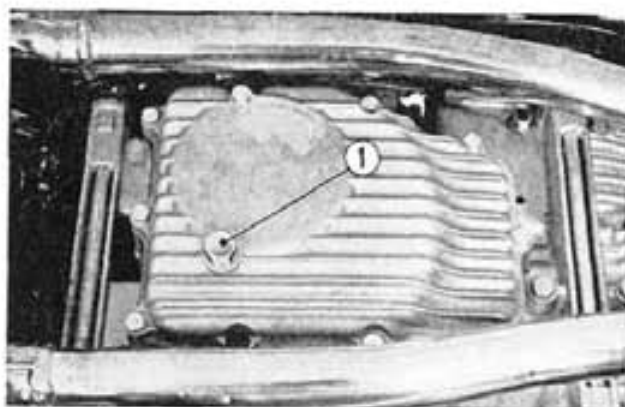

Fig. 2-1 ① Engine oil drain plug
2. Remove the oil filter and drain the engine oil by removing both the oil tank drain plug (refer to Fig. 15-7 on page 154) and the engine oil drain plug. (Fig. 2-1)